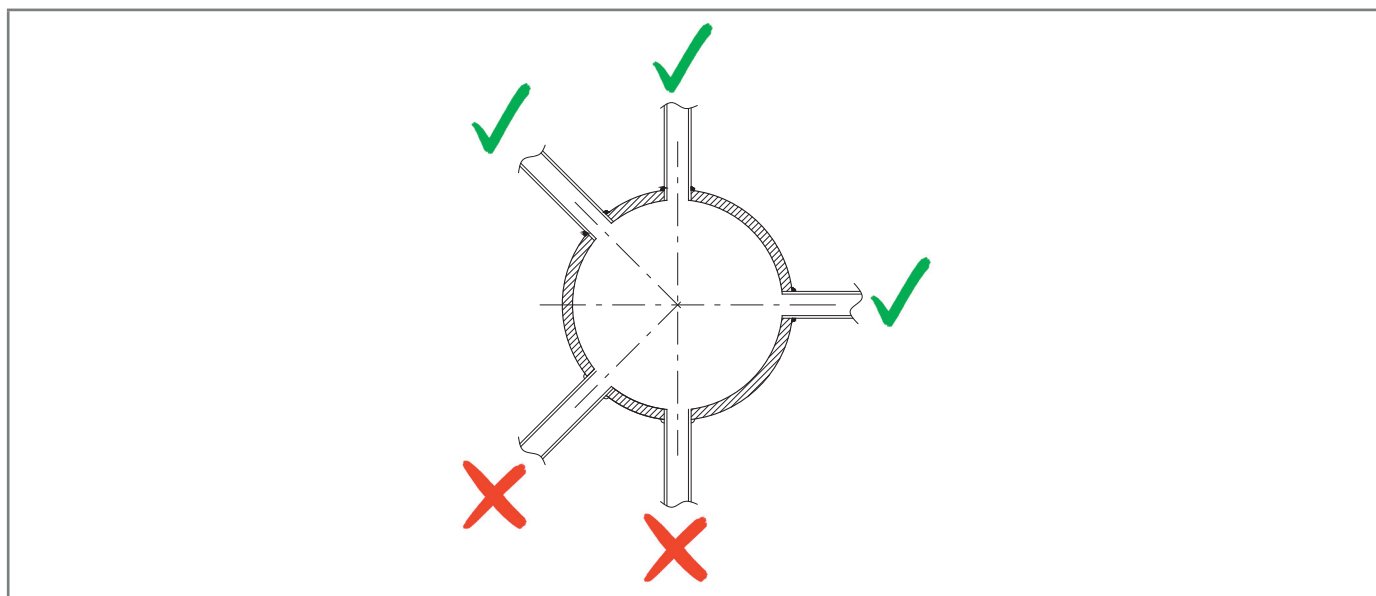

Fig. 6.9. Welded connections of the pneumatic connection
- the pneumatic connection couplings are always welded on the upper part or at maximum 90 degrees on the axis of the pipe (refer to fig. 6.9);